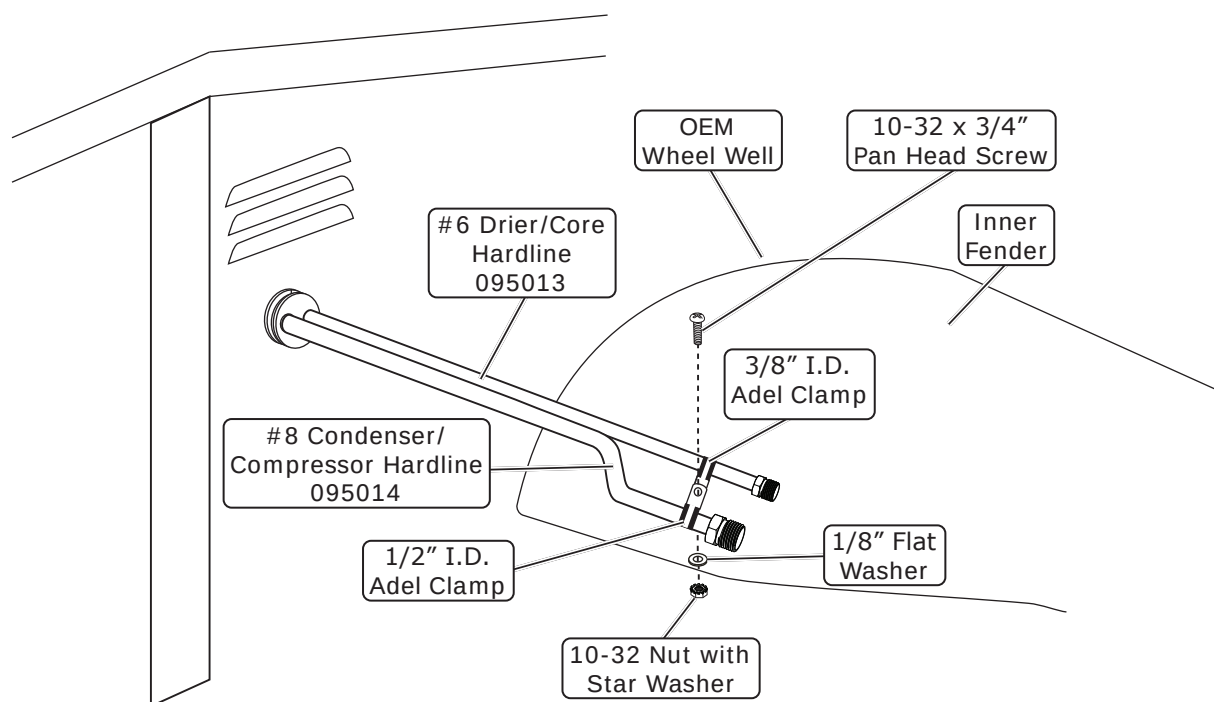

Figure 1
1. Install the Adel clamps onto the hardlines, then secure them to the inner fender as shown in Figure 1, below.